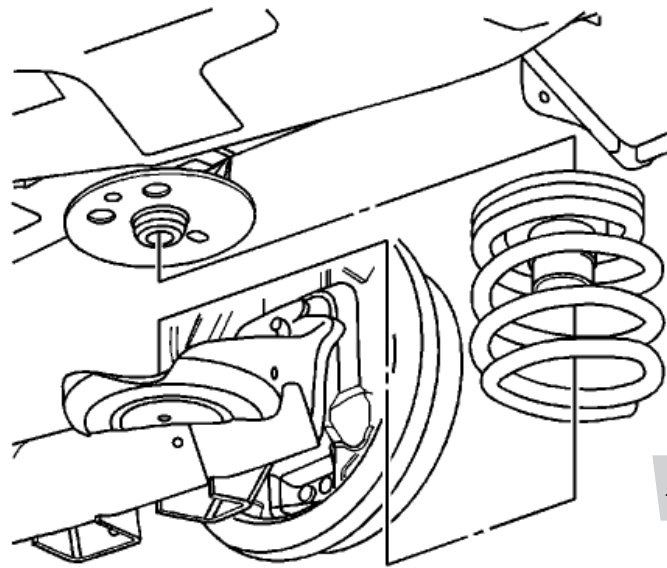

fig. 4
6. Remove the spring, upper and lower spring seats and the jounce bumper (fig. 4).